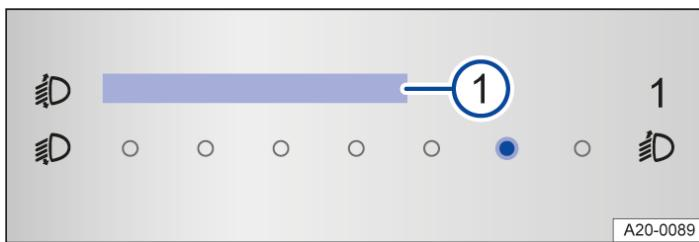

Fig. 1 In the Infotainment system: touch slider for headlight range control.
Depending on the vehicle equipment, the headlight range can be adjusted in the Infotainment system → *Fig. 1*.
- Tap the **Headlights** function button to open the menu option Headlight range control → *Fig. 1* 1.